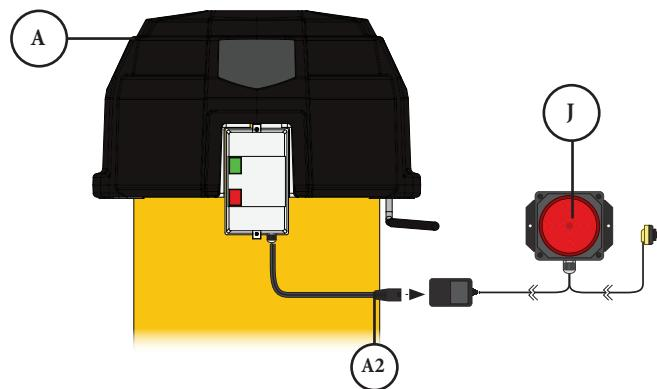

FIG. 23
22 Take the Tubing Assembly (G16) and route it through the closest retaining hole located in the back corner of the Wall Bracket (F) [FIG. 23].
23 Connect the Dust Sentry's power adapter (J) to the Dust Sentry Cord (A2) on the Motor Assembly's (A) magnetic starter. The Dust Sentry (J) should be mounted in a highly visible area using adhesive strips or the Sentry's two mounting holes [FIG. 23].